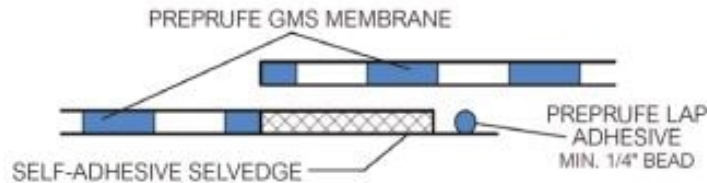

Figure 1
**Horizontal substrates**—Place the membrane HDPE film side to the substrate with the clear plastic release liner facing towards the concrete pour. End laps should be staggered to avoid a build up of layers. Leave plastic release liner in position until overlap procedure is completed. Apply a minimum ¼ in. bead of PREPRUFE®Lap Adhesive along the side lap’s plastic selvedge between the HDPE film and the release liner before attempting to overlap (See Figure 1). Accurately position succeeding sheets to overlap the previous sheet by 4 in. (100 mm) along the marked selvedge.
**Vertical substrates**—Mechanically fasten the membrane vertically using fasteners appropriate to the substrate with the clear plastic release liner facing towards the concrete pour. The membrane may be installed in any convenient length. Fastening can be made through the selvedge using a small and low profile head fastener so that the membrane lays flat and allows firmly rolled overlaps. Immediately remove the plastic release liner. Apply a minimum ¼ in. (6 mm) bead of PREPRUFE®Lap Adhesive along the side lap’s plastic selvedge between the HDPE film and the release liner before attempting to overlap (see Figure 1).
**All surfaces**—It is essential to create a sound and solid substrate to eliminate movement during the concrete pour. Substrates must be regular and smooth with no gaps or voids greater than 0.5 in. (12 mm). Grout around all penetrations such as utility conduits, etc. for stability (see Figure 1).